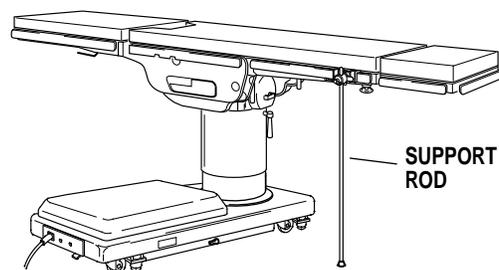

Figure 3-19. 90 Degree Top Rotation
b. The use of the optional support rod allows the table top to be rotated 90° from the base. See figure 3-19.